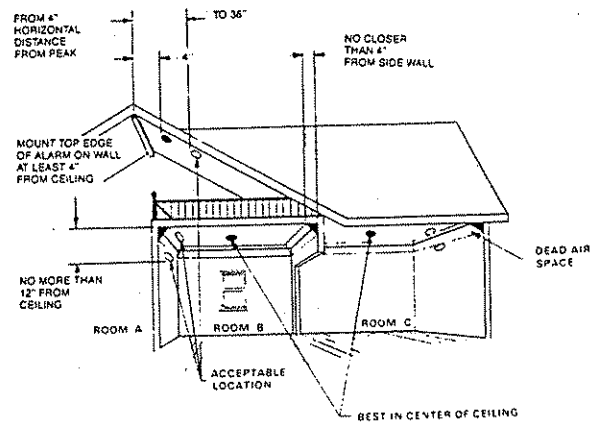

FIGURE 4
- Do install smoke alarms on the ceiling not closer than 4 inches to any wall or corner, or on the wall at least 4 inches but no more than 12 inches from the ceiling. See Figure 4.
- If you have a peaked, sloped, gabled, or cathedral styled ceiling, mount your smoke alarm 4" to 36" (3 feet) MEASURED HORIZONTALLY FROM THE HIGHEST POINT ON THE CEILING AS SHOWN IN FIGURE 4.
- Do not install smoke alarms in both rooms (areas) that are divided by a partial wall extending 8 or more inches down from the ceiling. See smoke alarms located in rooms B & C of figure 4.